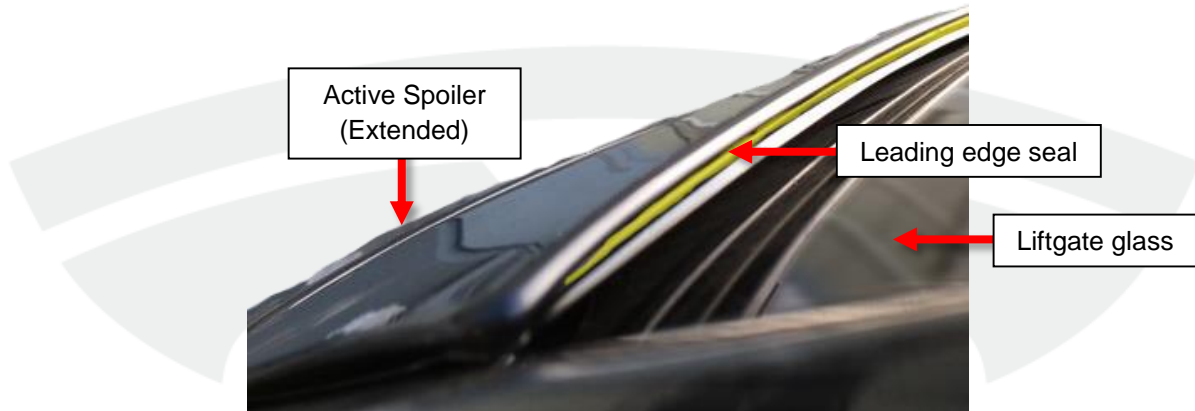

Figure 1 (Leading edge seal highlighted)
- If a rubber seal is present on the leading edge (Figure 1), discontinue this procedure.